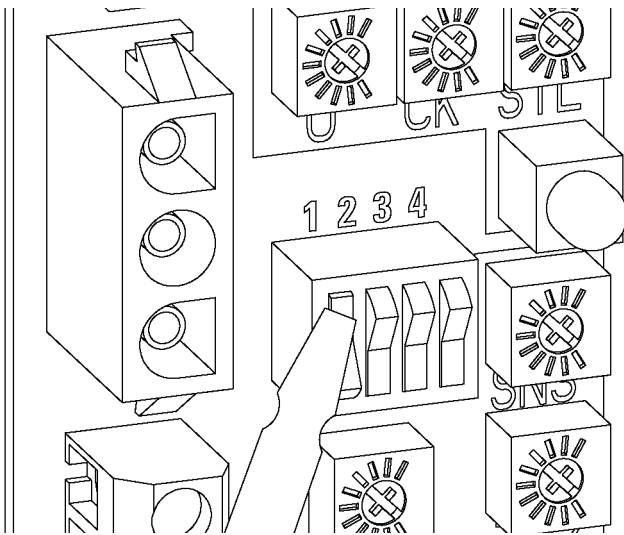

Fig. 30
Four operating features are controlled by dip switches (see Fig. 30). A dip switch has two positions, up (A) and down (B). Use a small screwdriver or a pencil point to set the dip switches.